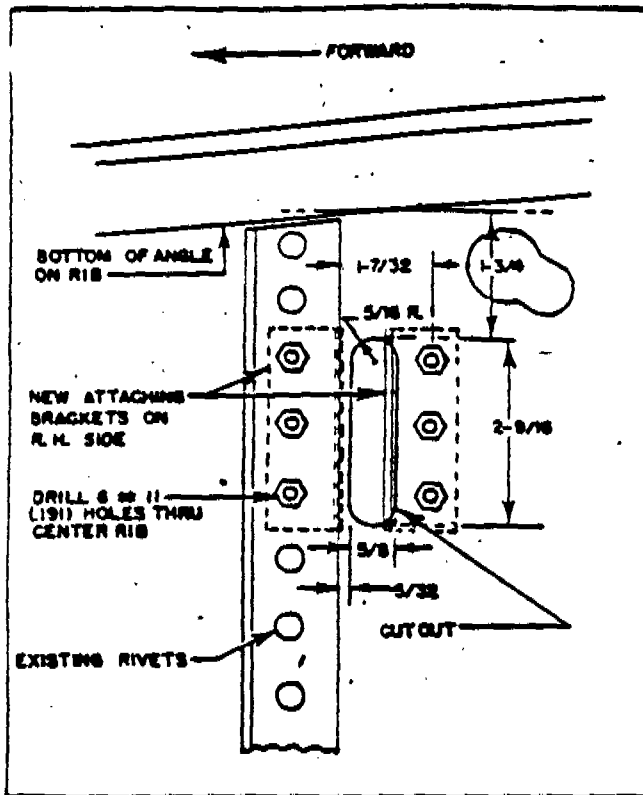

Figure 4 - Cut-out in Center Rib
l. Make the cut-out in the center rib, just aft of the reinforcing angle in accordance with the dimensions shown in figure 4.